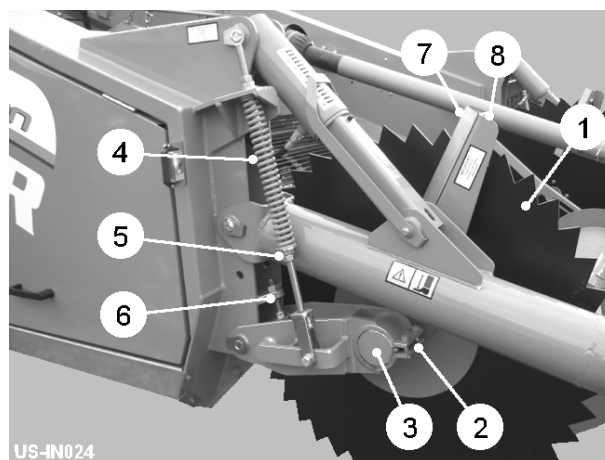

Fig 11
The discs (item 1, fig 11) cut and contain the soil while feeding it over the shares onto the stars. The disc width setting is adjusted by loosening the clamp bolts (item 2, fig 11) and sliding the disc hub (item 3, fig 11) to the new position. The pressure setting of the discs is set on the springs (item 4, fig 11). The spring pressure should be sufficient to keep the disc turning in the soil while at the same time allow it to rise up over any obstructions. Spring pressure is increased/decreased by raising/lowering the bottom spring rod locknuts (item 5, fig 11). Maximum disc height is limited by the depth stop (item 6, fig 11).
As the disc scrapers (item 7, fig 11) wear, they should be adjusted closer to the disc. To do this, slacken the clamp bolts (item 8, fig 11) and reposition the scrapers until just clear of the disc surface and retighten.